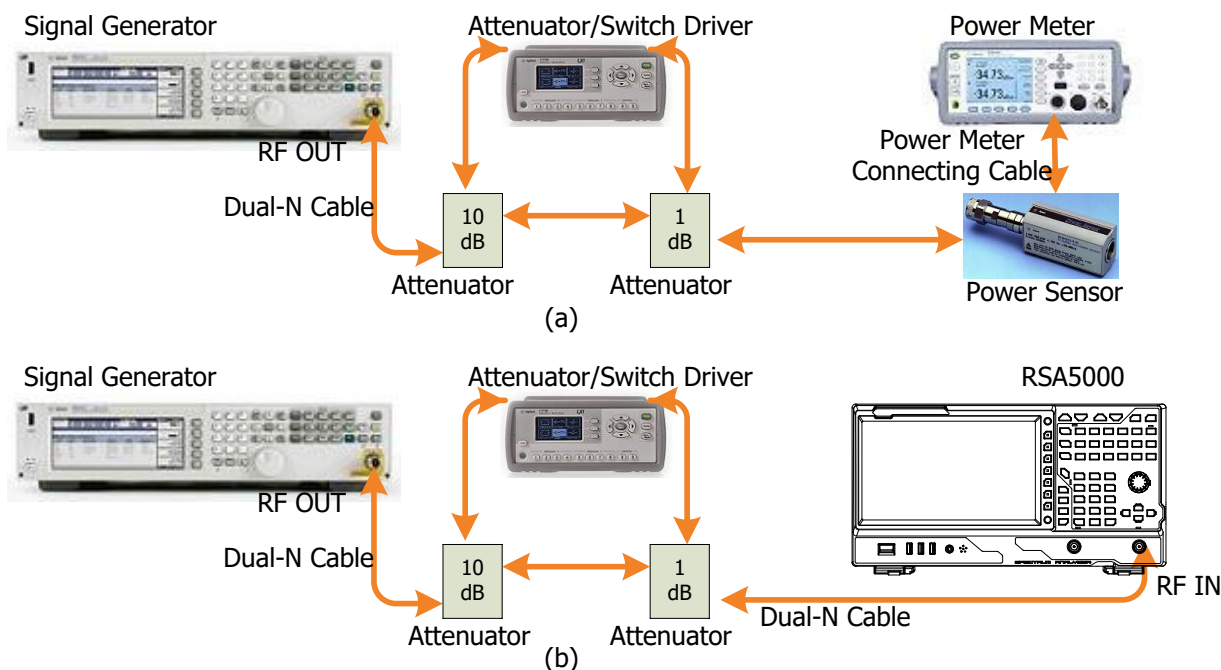

Figure 2-8 Input Attenuation Switching Uncertainty Test Connection Diagram
2. Connect the output terminal of the signal generator with the program-controlled attenuator; then, connect the program-controlled attenuator with the power sensor, as shown in Figure 2-8 (a).
6. Disconnect the program-controlled attenuator and the power sensor. Connect the output of the program-controlled attenuator to the RF input terminal of the spectrum analyzer, as shown in Figure 2-8 (b).